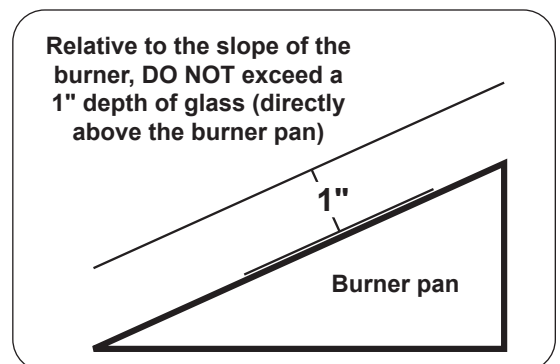

Fig. 13-2 Proper media placement
- Relative to the slope of the burner, **DO NOT** exceed a 1" depth of glass (directly above the burner pan) as shown in Fig. 13-2. Any additional glass/gems above the burner may cause unsafe operation.